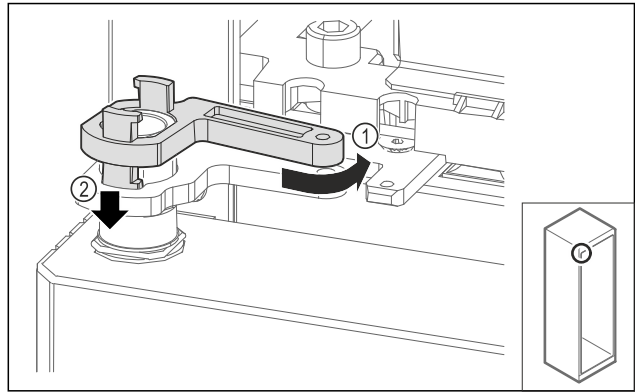

Fig. 67
- ▶ Turn the swap bearing block lock back slightly Fig. 67 (1), press it down Fig. 67 (2) and lock it at the hinge bracket.